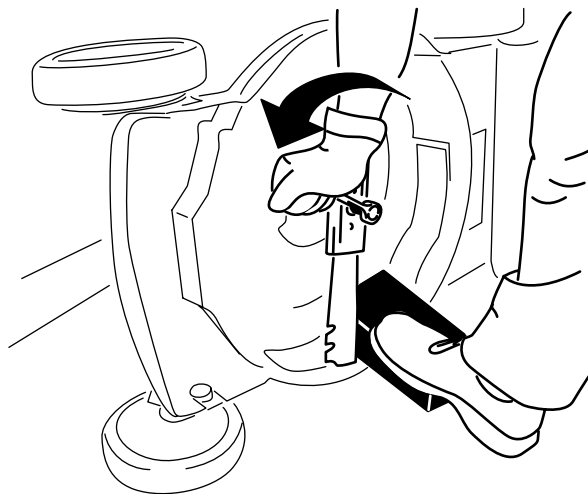

Figure 31
3. Use a block of wood to hold the blade steady (Figure 31).
4. Remove the blade, saving all mounting hardware (Figure 31).